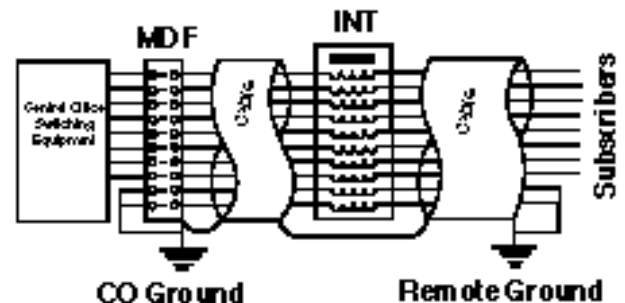

Figure 15: Non-terminal Located INT in Subscriber's Distribution Cable with Dedicated Exciting Pair
**7.07** If the exposure is not too great, a single "electrical mid-point" located INT like that shown in Figure 15 may be all that is required. It